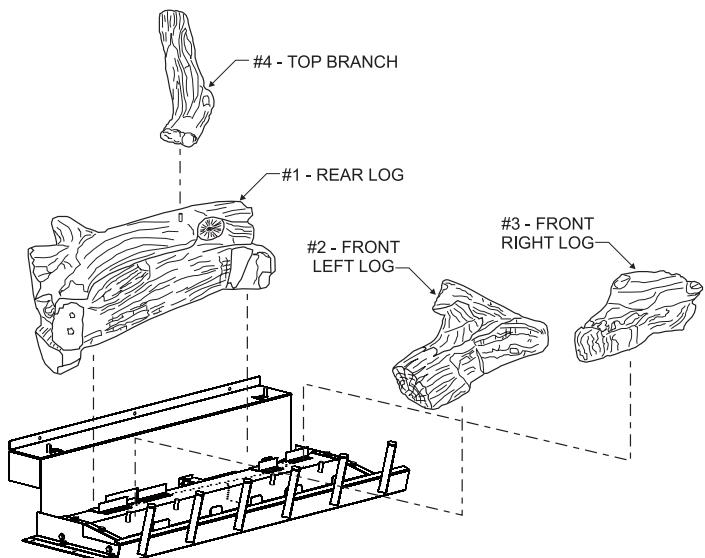
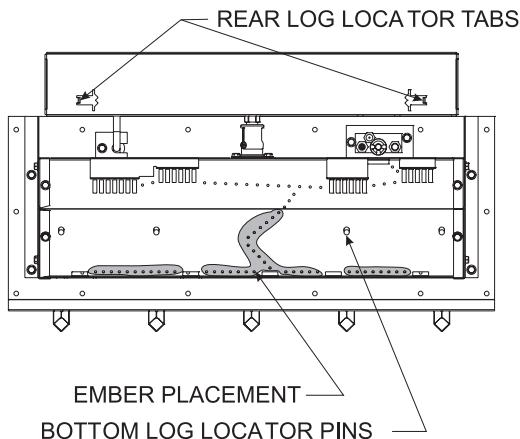

Figure 69
Figure 70
The positioning of logs is critical to safe and clean operation of this fireplace. Sooting and other problems may result if the logs are not properly and firmly positioned in the fireplace. Please refer to **Figure 69**, **Figure 70**, and **Figure 71** and corresponding **WARNING**, when completing the following log placement steps.
2. After all logs are properly positioned, place small "dime" size pieces of Rockwool lightly across the front round "blueflame" ports. Place the ember material (Rockwool pieces) side by side. Do not stack more than one layer of embers across the burner ports. See **Figure 69**.